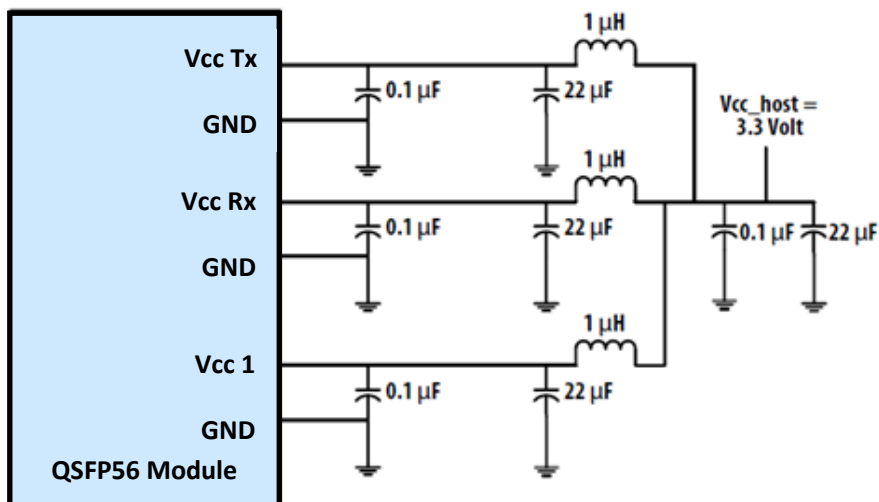

Figure 3. Recommended Power Supply Filter
2. VccRx, Vcc1 and VccTx are the receiving and transmission power suppliers and shall be applied concurrently. Recommended host board power supply filtering is shown in Figure 3 below. Vcc Rx, Vcc1 and Vcc Tx may be internally connected within the QSFP56 transceiver module in any combination. The connector pins are each rated for a maximum current of 1000mA.